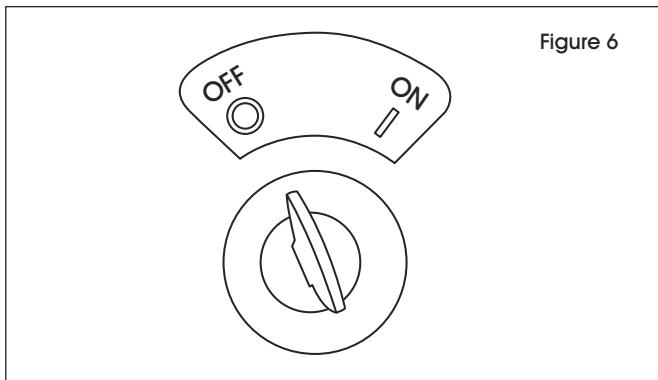

Figure 6
1. Turn key to OFF position. (See Figure 6)